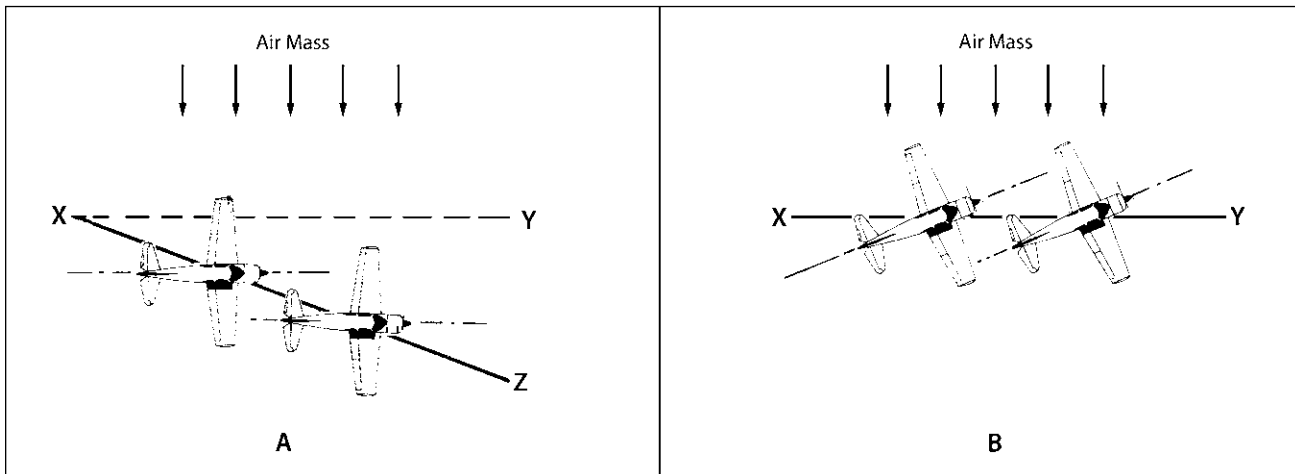

Figure 10-3. The principle applied to the airplane and air mass.
The same idea applies to the airplane (Figure 10-3). The wind is the current in this case. If you want to fly from X to Y with the wind as shown, you must angle into the wind, or set up a "crab."
the rocket-plane have the ability to smoothly roll into a crab, neutralize the controls and fly the ground track (course) you need to get you to your destination (B). You fly the crab in coordinated flight (not slipping or skidding) and are using some of your airspeed to offset the wind pushing you off course (see Figure 10-3). Due to its very high airspeed, the rocket-plane will have a much smaller crab angle than you. Only in one case do you use uncoordinated flight (a slip) to offset drift (Chapter 13).